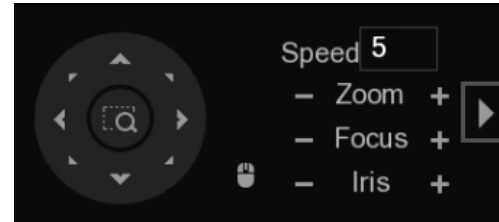

Figure 5-6
Step 2 Click **PTZ**. The PTZ setting interface is displayed. See Figure 5-6.